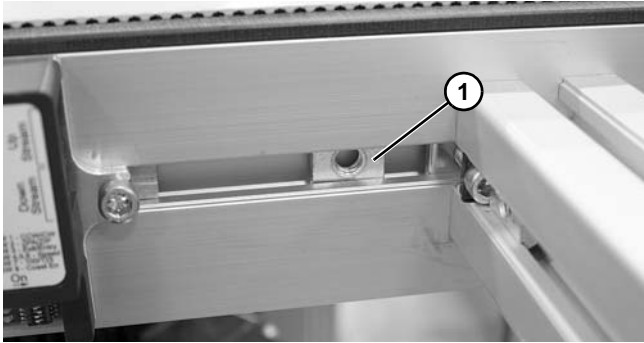

Figure 70
1. Install cam follower nut (Figure 70, item 1) in conveyor rail channel. Repeat for opposite conveyor rail.